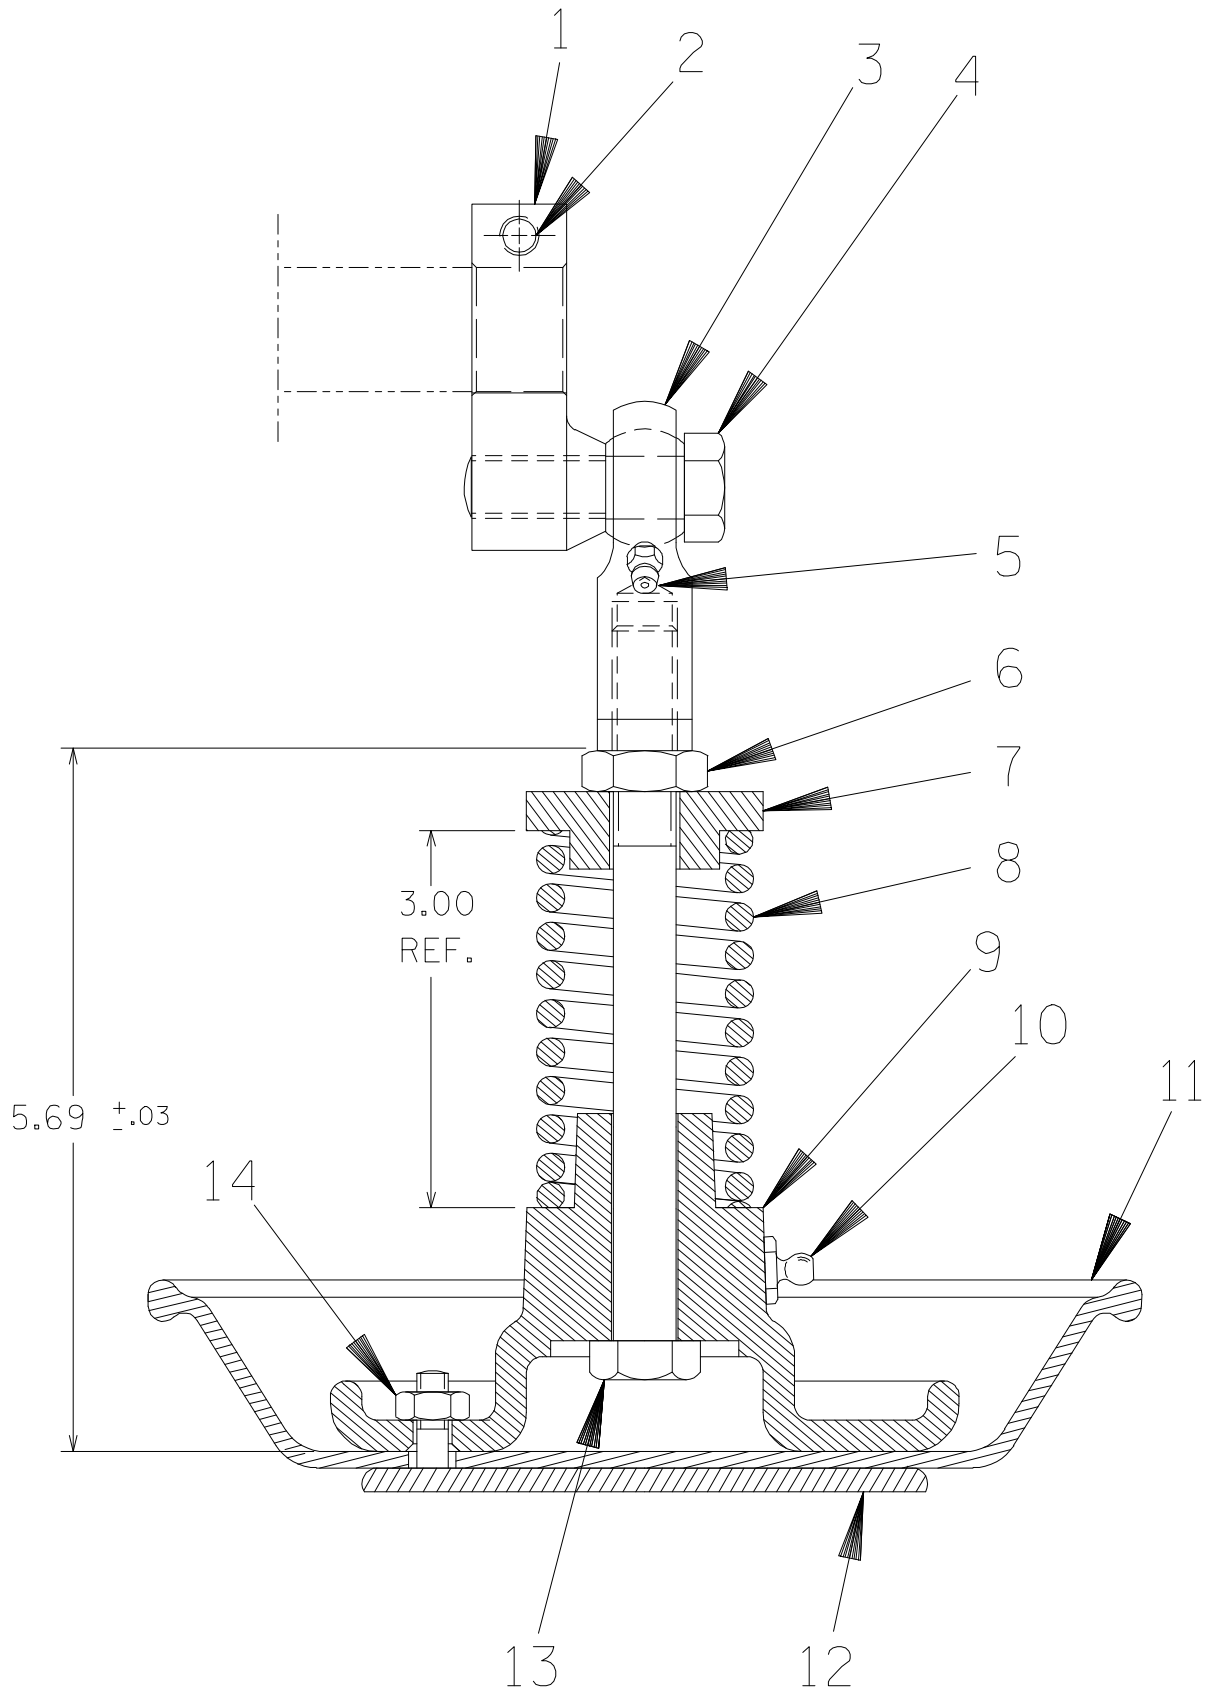

Figure 2. 46181-004 Plunger Rod Assembly
Before attempting to service the pump, drain the pump by removing the drain plug (18, Figure 2). Clean and reinstall the drain plug.
Before attempting to remove the diaphragm (11, Figure 2), rotate the motor shaft until the eccentric (1, Figure 2) is at the top of its stroke and the spring (8, Figure 2) is decompressed.
(Figure 2)
Slide the plunger rod (13) through the diaphragm plate (9). Install the spring (8), spring centering washer (7) and jam nut (6). Compress the spring to the dimension shown in Figure 2 by tightening the jam nut.
Position the retainer ring (14) over the diaphragm. Position the diaphragm and plunger rod in the diaphragm pot (28) with the grease fitting (10, Figure 2) facing away from the gear reducer (10).